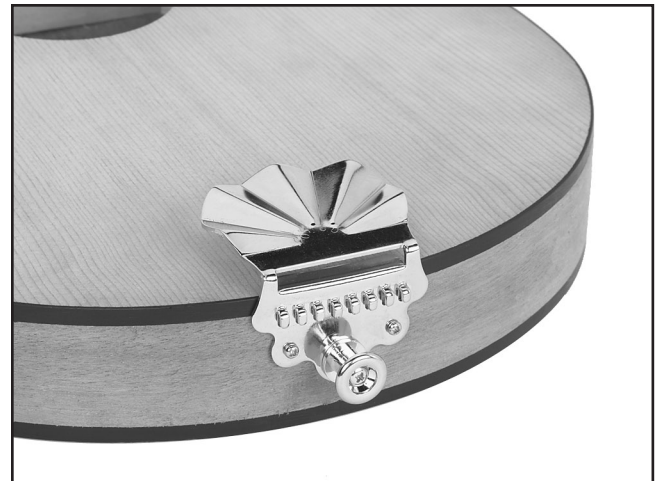

Figure 23. Tailpiece components.
2. Secure the tailpiece to the mandolin with two #1 x 3/8" screws as shown in **Figure 23**.